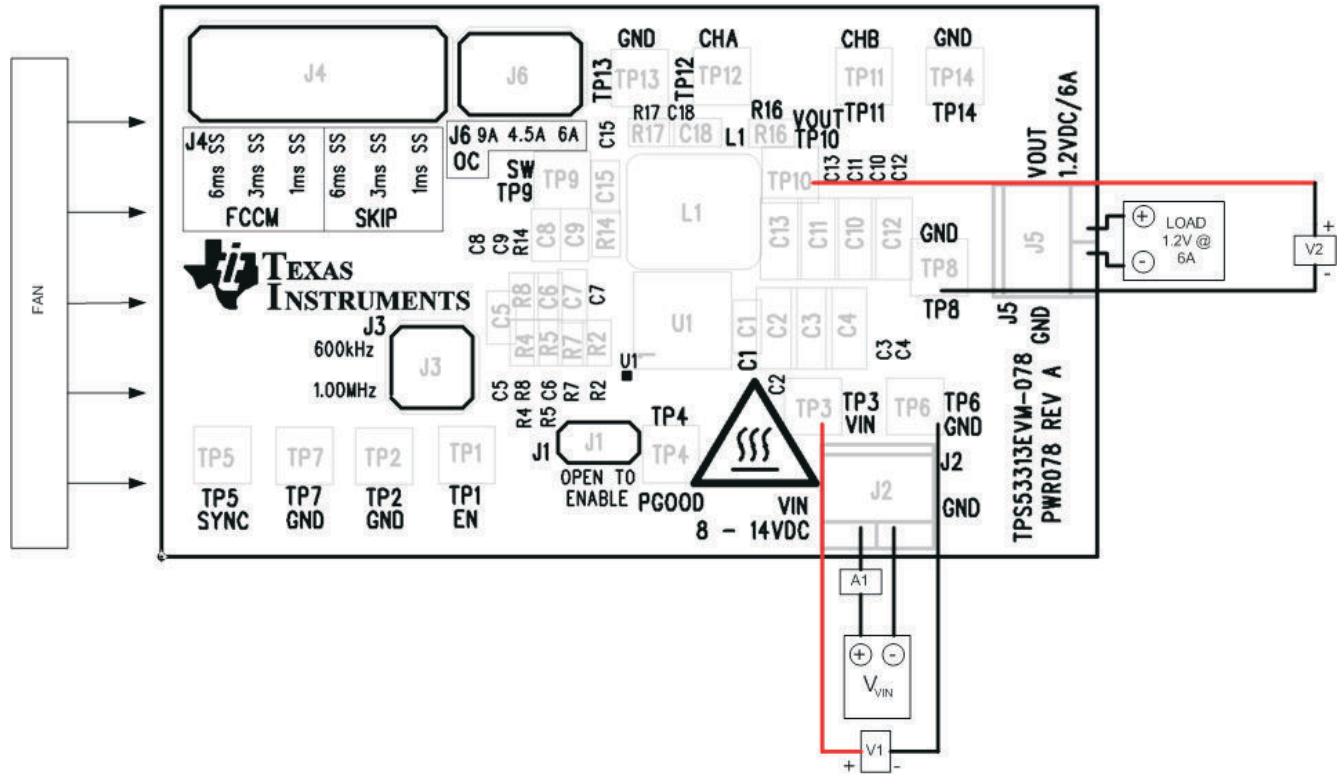

Figure 5-2. TPS53313EVM-078 Recommended Test Set Up
| Figure 5-2. TPS53313EVM-078 Recommended Test Set Up.....   | 6  |
**Voltage Source (VIN):** The input voltage source, (VIN), should be a 0-V to 15-V variable DC source capable of supplying 2 ADC. Connect VIN to J2 as shown in Figure 5-2.
Figure 5-2 is the recommended test set up to evaluate the TPS53313EVM-078. Working at an ESD workstation, make sure that any wrist straps, bootstraps or mats are connected referencing the user to earth ground before power is applied to the EVM.
- Prior to connecting the DC input source (VIN), it is advisable to limit the source current from VIN to 2 A maximum. Make sure VIN is initially set to 0 V and connected to J2 as shown in Figure 5-2.
- Place a fan as shown in Figure 5-2 and turn on, making sure air is flowing across the EVM.
1. Set up EVM as described in Section 5 and Figure 5-2.